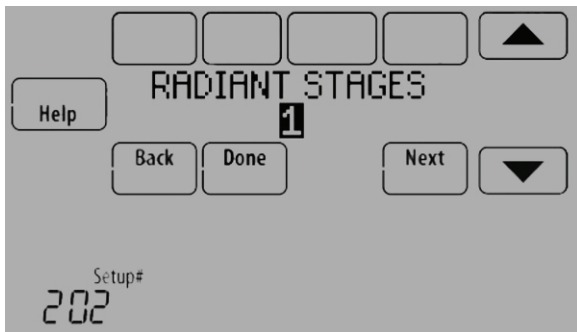

Fig. 109.
2. Select the number of Radiant Heat Stages. See Fig. 109.